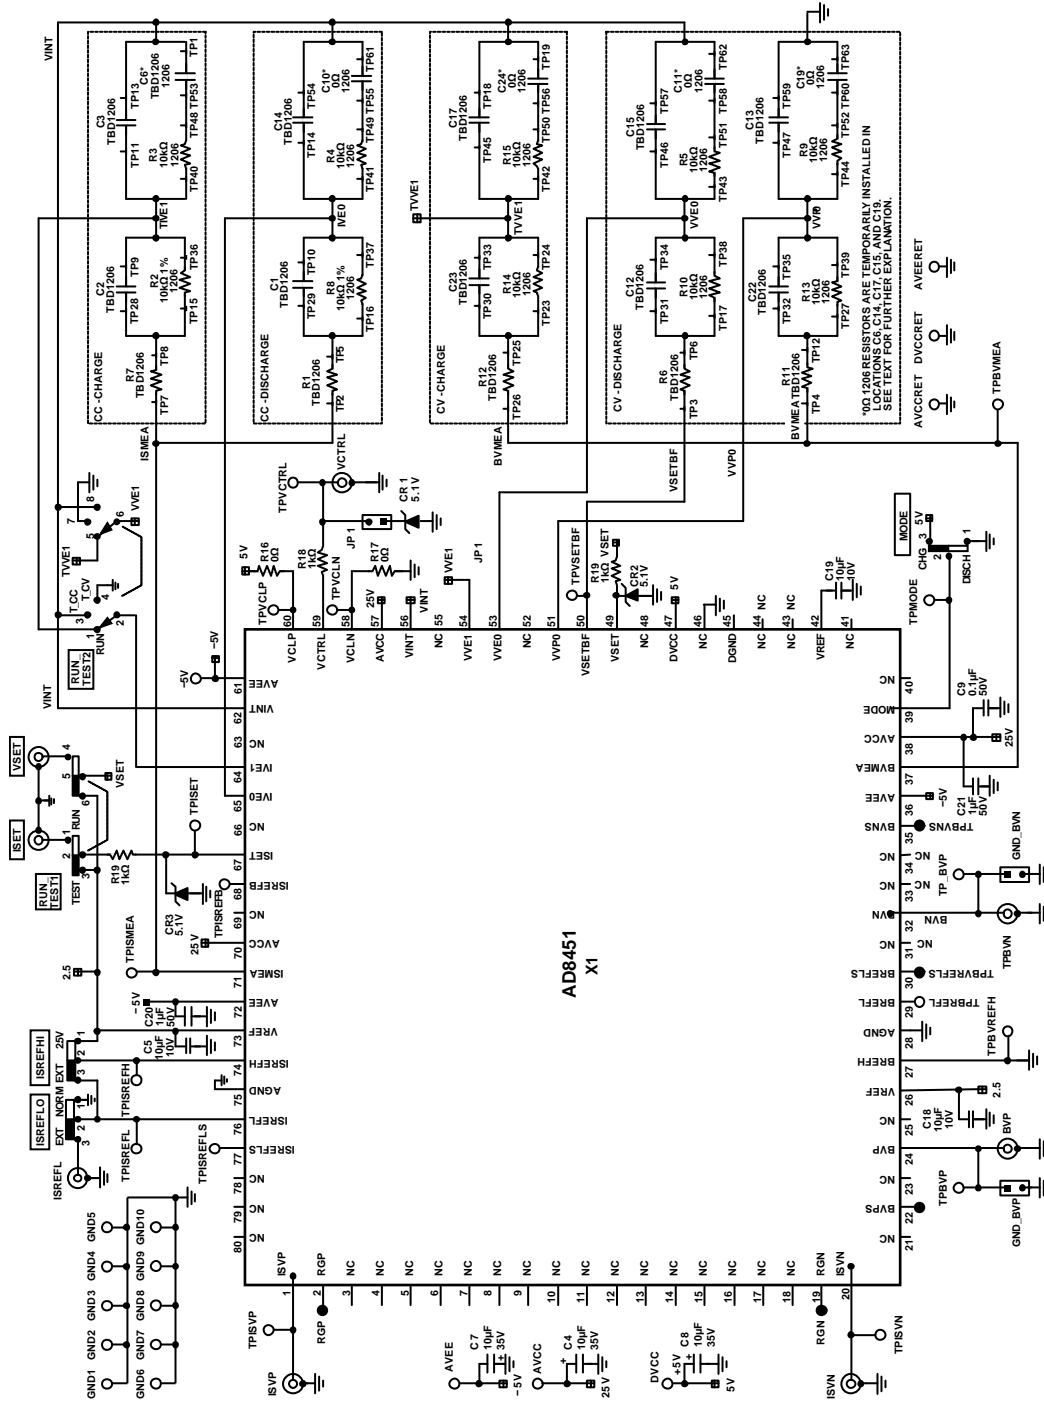

Figure 52. AD8451-EVALZ Schematic
SMA connectors provide access for input voltages to the sensitive instrumentation (IA) and difference (DA) amplifiers. ISVP and ISVN connectors are the IA inputs, and BVP and BVN are the DA inputs. These inputs accept the dc voltages from battery current and voltage measurement sources, or from a precision dc voltage source. SMA connectors ISET and VSET are available for precision dc control voltages for CC or CV battery charging voltages. SMA ISREFLO is available for applying a nonzero reference voltage to the IA. SMA VCTRL connects to the input of a dc-to-dc power converter as seen in Figure 52. Convenient test loops are provided connecting scope probes or instruments for the remainder of the input/output.
The MODE switch selects between the charge and discharge option. Figure 52 is a schematic of the AD8451-EVALZ. Table 6 lists and describes the various switches and functions.
Note the four compensation networks, CC-CHARGE, CC-DISCHARGE, CV-CHARGE, and CV-DISCHARGE, located on the right-hand side of the schematic shown in Figure 52. To make it easier to locate these components, the configuration of these networks on the AD8451-EVALZ PCB approximates that shown in the schematic (see Figure 52). Each of the components locations accommodates both standard, 1206 size, surface-mount chip resistors and capacitors or leaded components inserted into the pairs of TP thru holes spanning the SM footprints. The TP holes accept the popular 0.025" test pins if leaded devices are preferred for multiple loop tests.